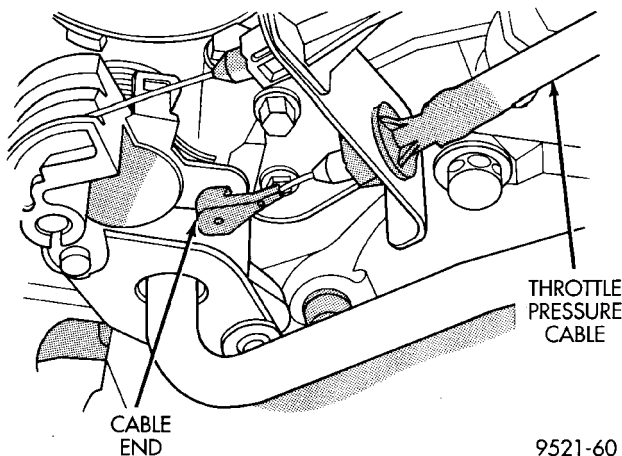

Fig. 19 Cable End At Throttle Linkage
(3) Unsnap the cable end from the throttle linkage cam. Squeeze the tabs inward at the bracket (Fig. 19). Remove the cable from the vehicle.